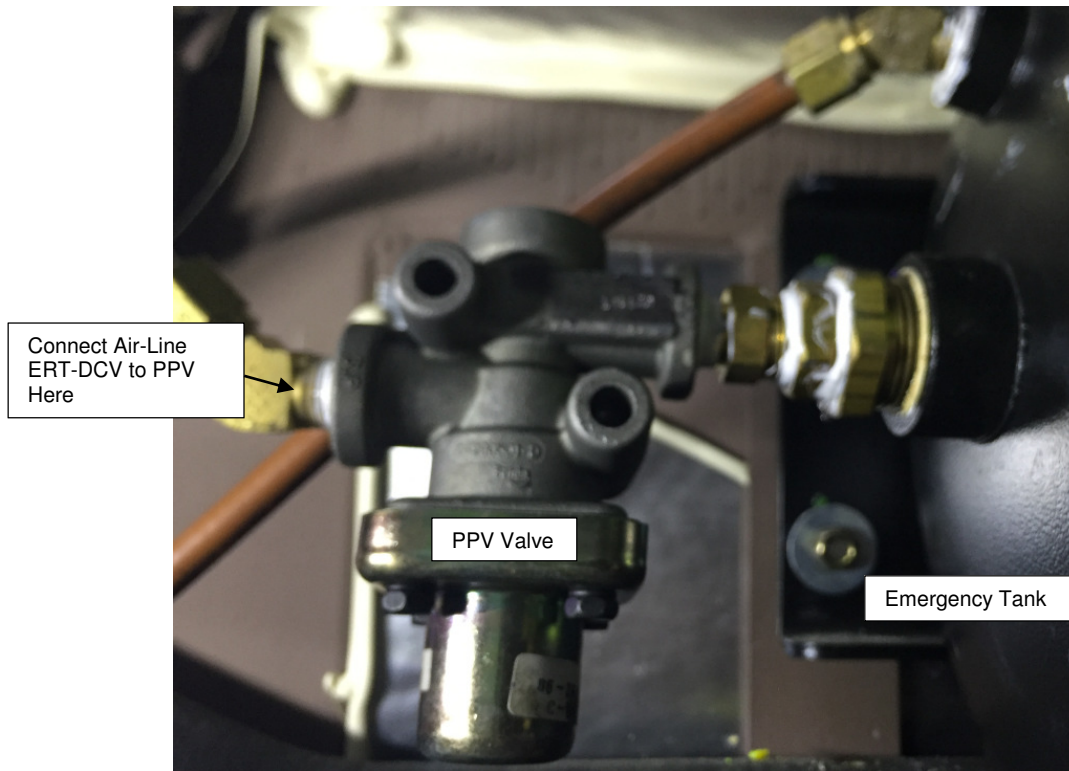

Figure 2: Valve Installed on Emergency Air Tank.
8. Install a valve NF P/N 622788 on the reducer using Loctite 567 thread sealant NF P/N 8110442. The port marked “DEL” (Delivery) should be installed on the nipple. Orient the valve as seen in Figure 2.